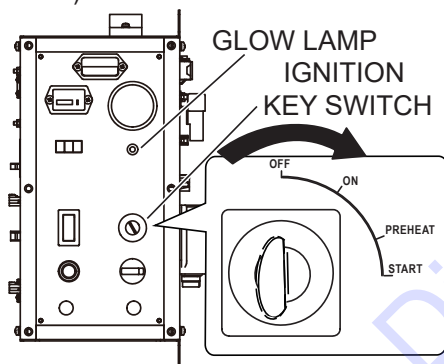

Figure 15. Ignition Switch
3. Insert the ignition key into the ignition key switch (Figure 15).